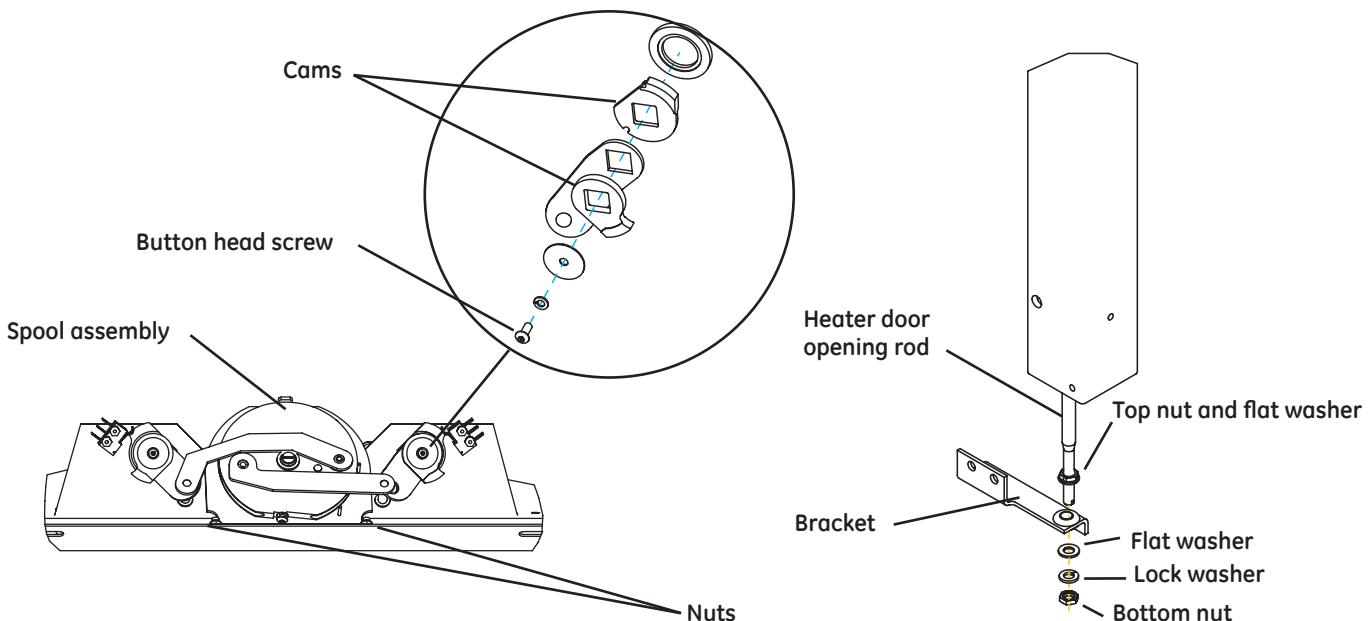

Figure 5-43 Heater Door Cable Adjustment
Refer to "Figure 5-43 Heater Door Cable Adjustment".
16. Insert and secure the rod in the bracket. Position the opposing M5 nuts so that the bracket is approximately halfway up the threaded section of the rod. (Refer to "Figure 5-43 Heater Door Cable Adjustment".)